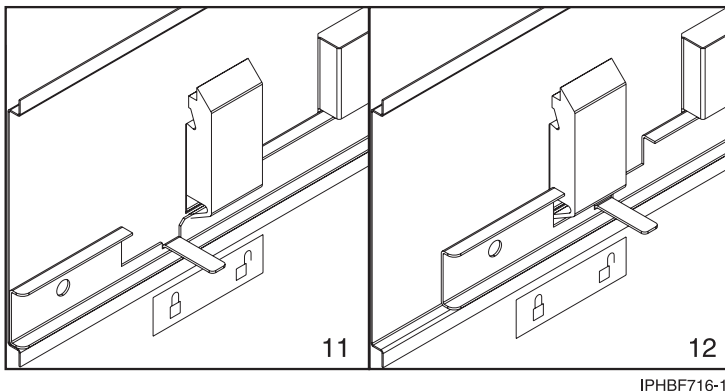

Figure 30. Placing the locked/unlocked sticker on the cover panel.
- e. Place a locked/unlocked sticker on the inside of the cover panel so that when the slide bar is in the locked position, the tab is over the locked symbol, 11, as shown in Figure 30 on page 38 and over the unlocked symbol, 12, when the slide bar is unlocked.